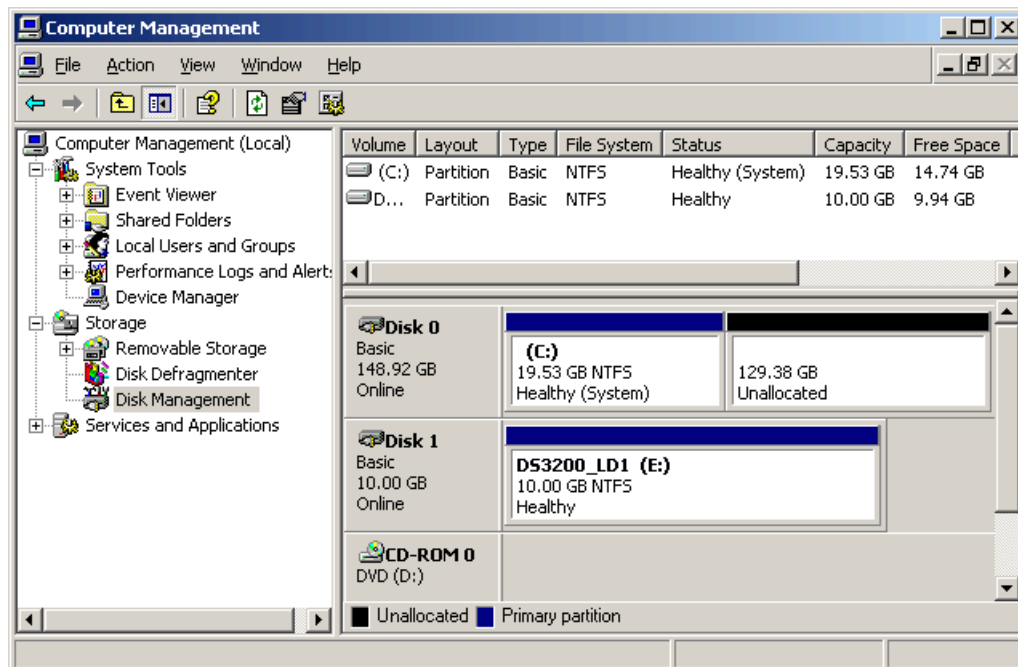

Figure 16-19 New partition on the logical drive
- Follow the process under the guidance of the wizard to define the partition size, drive letter, file system, and volume label. The partition will be created and formatted. The Disk Management applet now displays the new partition (allocated drive E), which is ready to be used (see Figure 16-19).